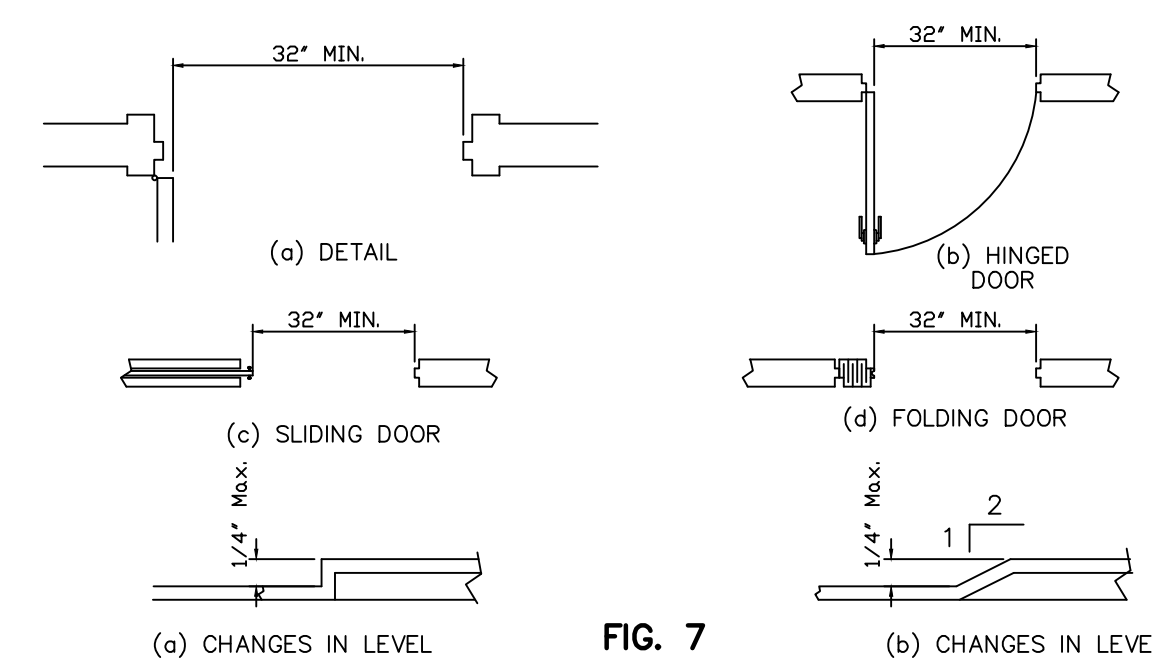

FIG. 7 Accessible Route
* INDICATE ADDITIONAL ITEMS, IF APPLICABLE TO THOSE DOORS. ALL DOORS SHALL HAVE CLEAR WIDTH AS SHOWN ON FIG. 24 & SILL HEIGHT LIMIT AS FIG. 7 SHOWN. DOOR HARDWARE SHALL BE NOTED ON FIG. 0.